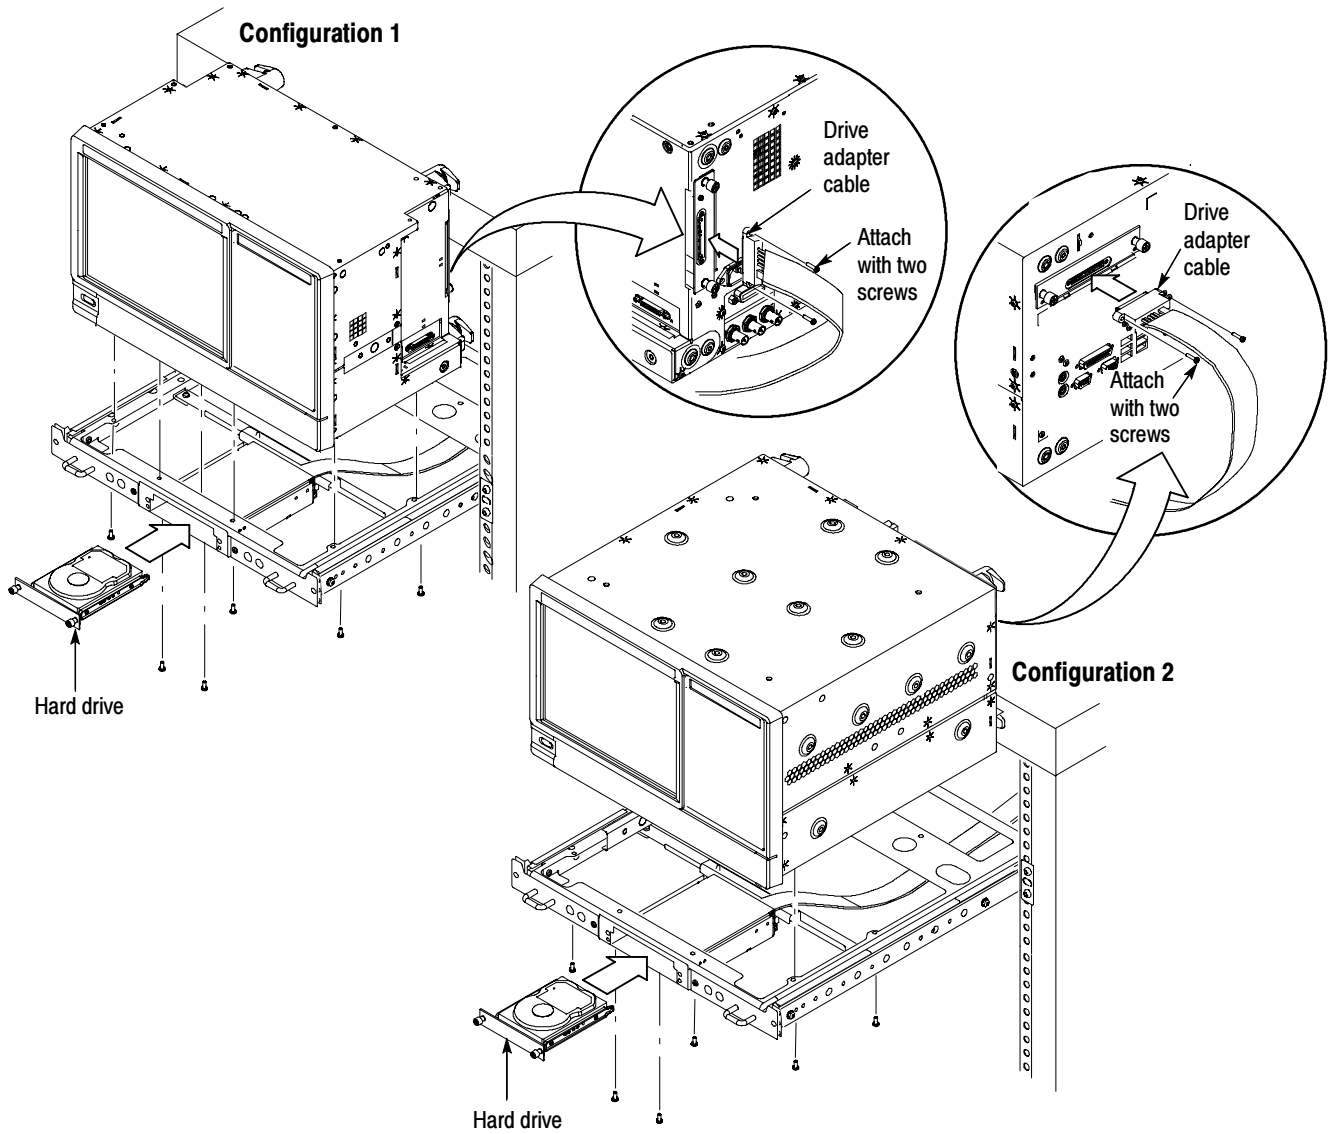

Figure 10: Installing the instrument on the rack plate
7. Install your instrument on the rack plate as shown in Figure 10.